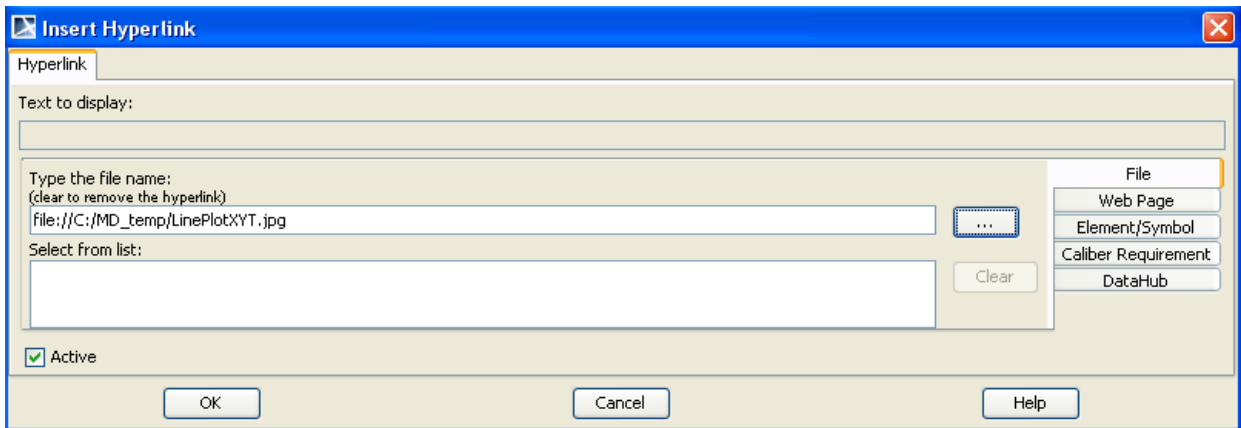

Figure 6.21 Hyperlink
- ii. A dialog box will appear, as shown in Figure 6.21. Use the browser (button with three dots) to point to the graphics file. Alternately, type in the name or select it from the list.